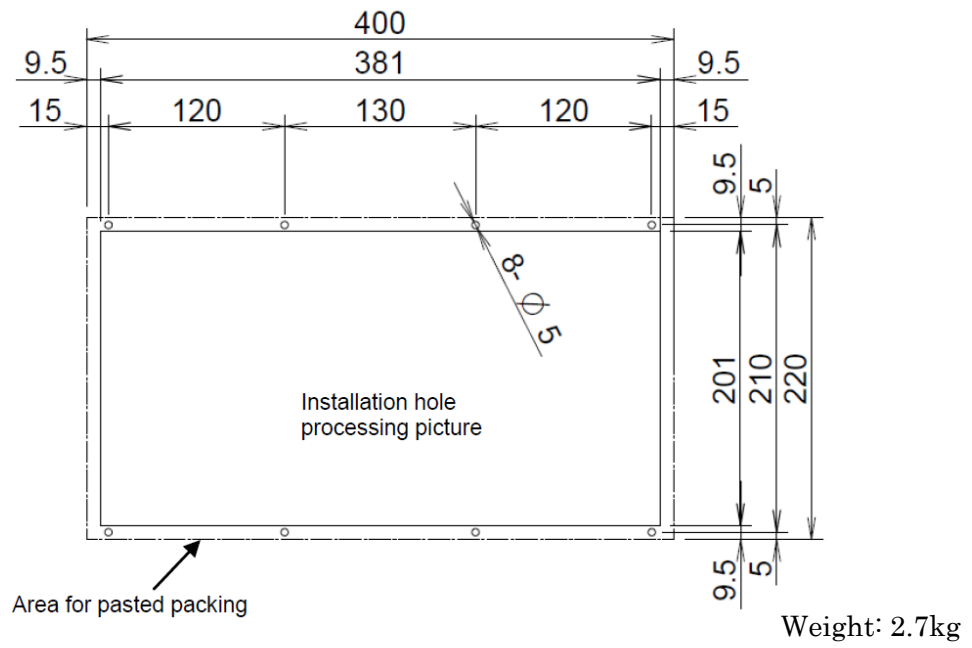

Fig. U16 10.4" LCD/MDI unit B(Horizontal) ⑧
| | 10.4" LCD/MDI unit B(Horizontal) | Fig. U16 | ⑧ |